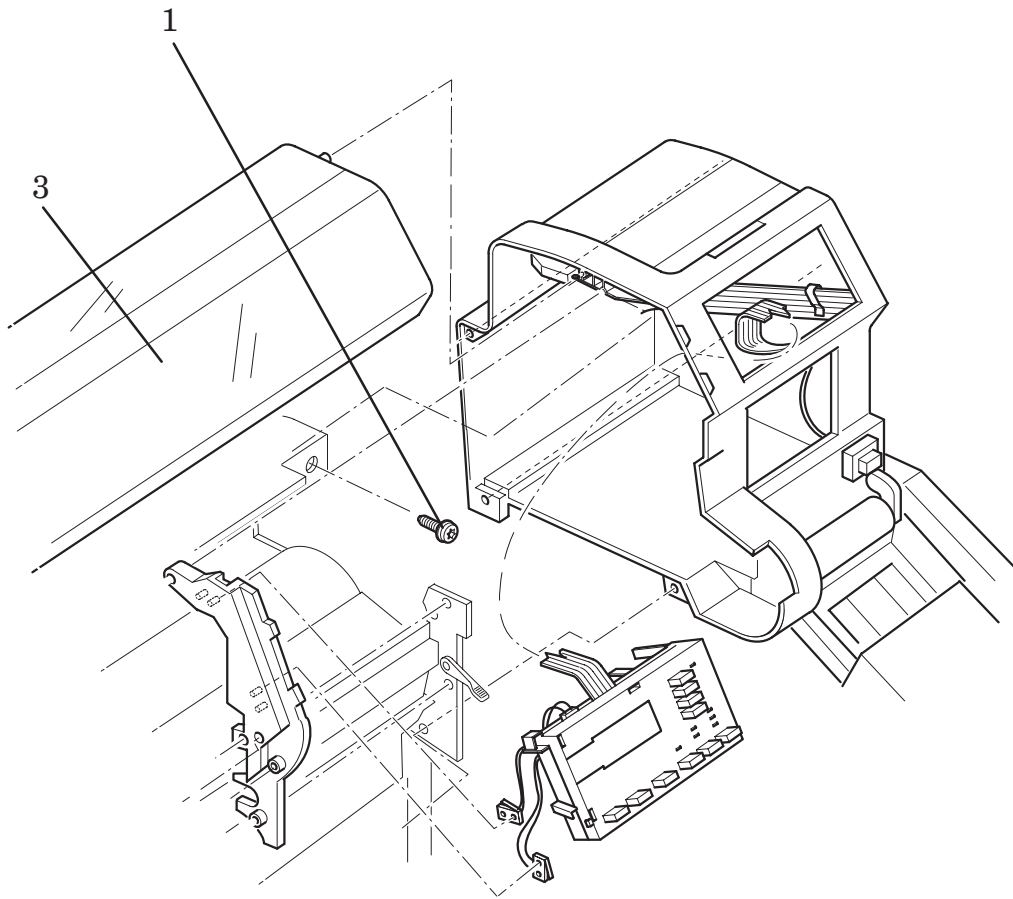

Figure 4: Window
3. Pulling the left hand cover aside remove the window (item 3 on figure 4).
4. Carefully push the left hand cover aside and install the window (item 3 on figure 4).